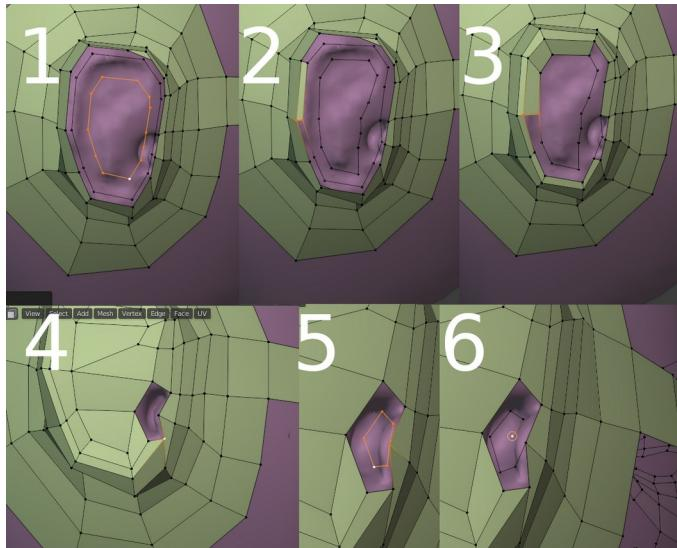

Figure 7-11 Filling in the ear
In Figure 7-11 stage 1 you can see that filling in the ear with edges along the ridges and grooves runs into a problem where there is a relatively featureless area in the center but there needs to be more detail, and a hole, at one side. If concentric loops continue to be added they will become far too congested below and to the right of the ear hole. Rather than using bridging edge loops, you can add quads and edges one at a time using **Vertex ▶ New Edge/Face from Vertices**, or in practice, the shortcut **F**.
14. Figure 7-11 stage 1 shows the stage where two loops have been duplicated and scaled down but not yet bridged because they have started to overlap the ear hole.
15. To create a single quad select four vertices or, more easily, two unconnected edges opposite each other, and press F. You can see the new quad formed in Figure 7-11 stage 2.
16. Select one of the sides of the newly created quad which is facing down a “track” of unconnected edges. In Figure 7-11 stage 2 you can see the edge I have selected. Now press F and, not only will a new quad appear, but the next edge down the track is automatically selected so you can press F repeatedly to fill in a strip of quads. This is actually a very fast and controllable way to build the mesh.
17. In Figure 7-11 stage 3 the circumferential quads are being filled as far as the awkward area in the bottom right. In stage 4 the flat area on the left was chosen to have an even number of edges around it, which are now filled in. The hole on the right, also has an even number of edges.
18. Figure 7-11 stage 5 shows what sometimes happens with automatic merging in confined spaces. One of the vertices from the duplicated edge loops forming the bottom of the ear hole has snapped to merge with a vertex on the loop outside it. Don’t